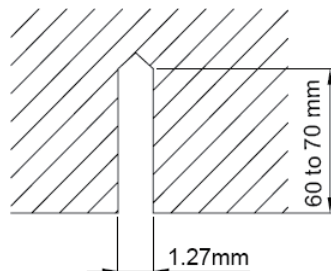

Fig.6
- (2). Install the bolts to the ceiling at a place strong enough to hang the unit. Mark the bolt positions from the installation template. With a concrete drill, drill for 1/2" diameter holes. (Fig.6)